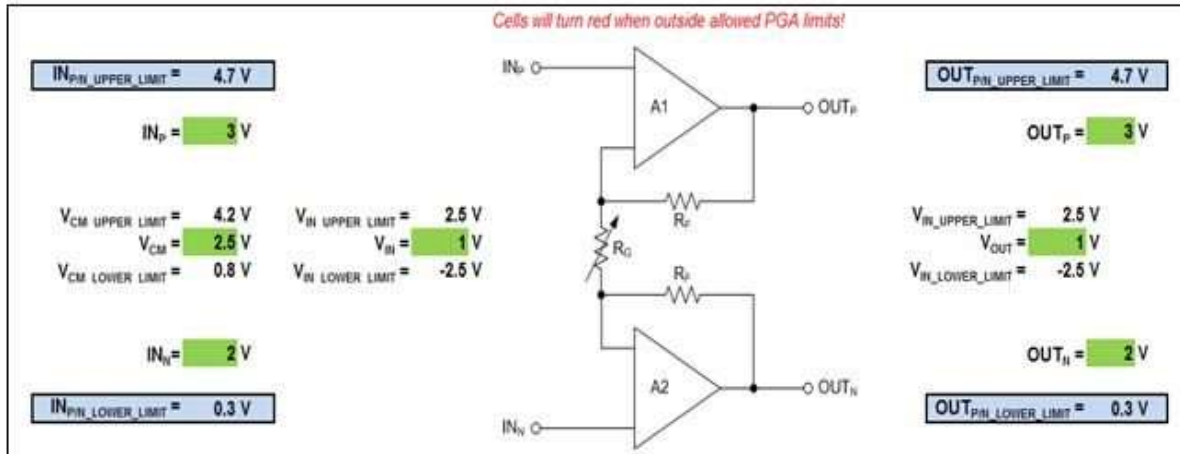

Figure 6: PGA allowable input range calculator from the ADS1262 tool
- While this is a fairly straightforward idea, it's not always easy to understand how combinations of different input voltages will impact the PGA's output. To simplify things, TI developed an Excel tool for the ADS1262 that performs this calculation for you, given the gain, input, supply and reference voltages (Figure 6). The tool also calculates cyclic redundancy check (CRC)/checksum values, provides sinc filter-response information and includes a register map.